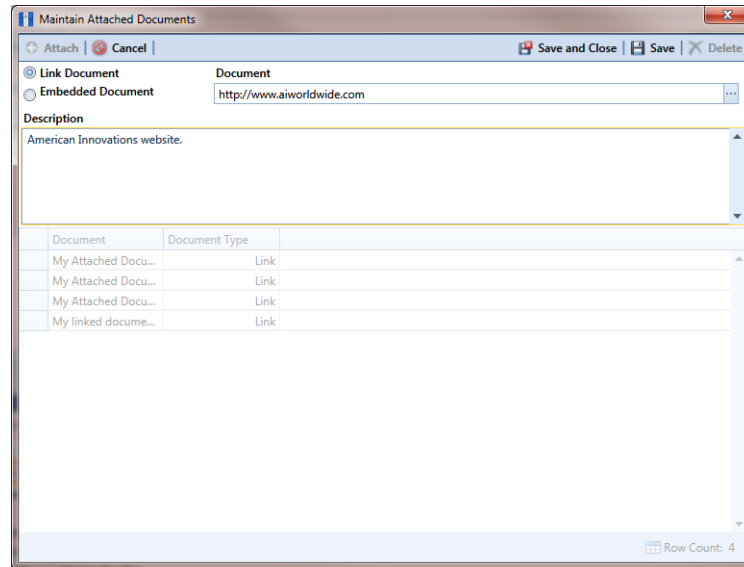

Figure 7-104. Maintain Attached Documents
- 8 If you selected *Link Document* in step 6 and want to add a link to a webpage on the Internet, follow these steps (Figure 7-104):